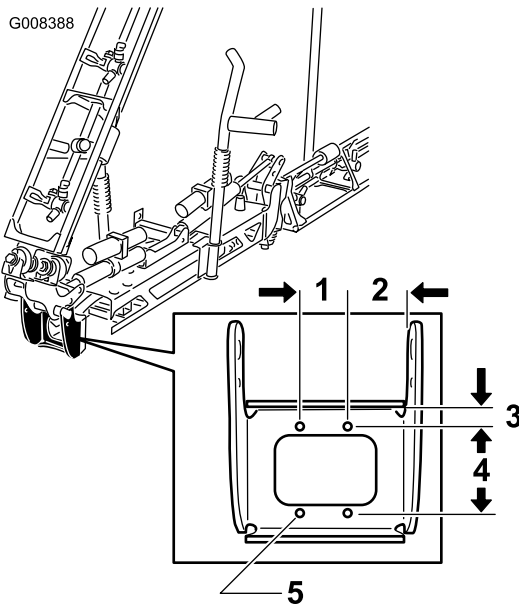

Figure 1
1. Measure and mark the holes shown in Figure 1.